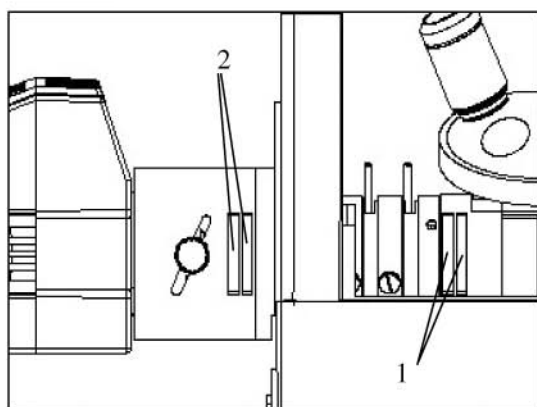

Fig. 10
## Mounting Filters and Polarizer (Figure 10)
1. Insert the polarizer and analyzer as described on page 8 (Figures 10 & 11).